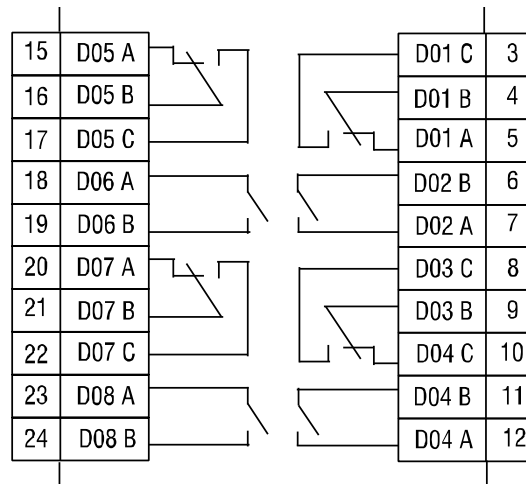

Fig. 4.2 MU110-8R outputs
- Wiring options for both types of outputs are shown on Fig. 4.2–4.3.